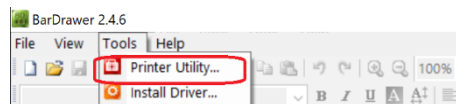

Figure 2
5. After the printer driver is installed, click Printer Utility under Tools (figure 2 below).